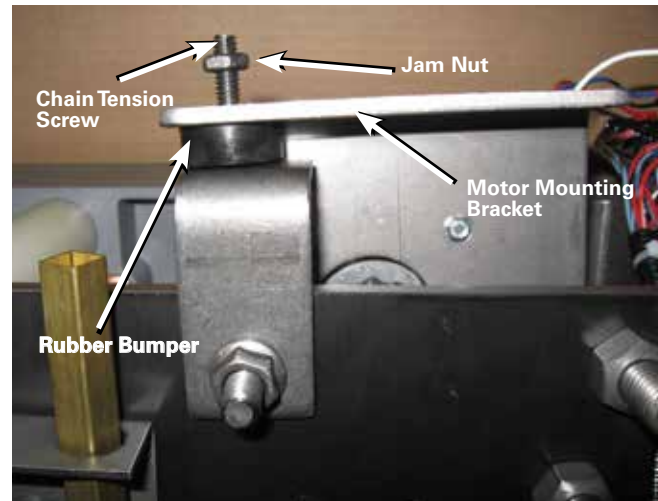

Figure 5. Loosening the chain tension.
5. Loosen the jam nut on the chain tension screw with a 7/16" wrench. Loosen the chain tension screw with a screwdriver until the rubber bumper is against the motor mounting bracket. Refer to Figure 5.